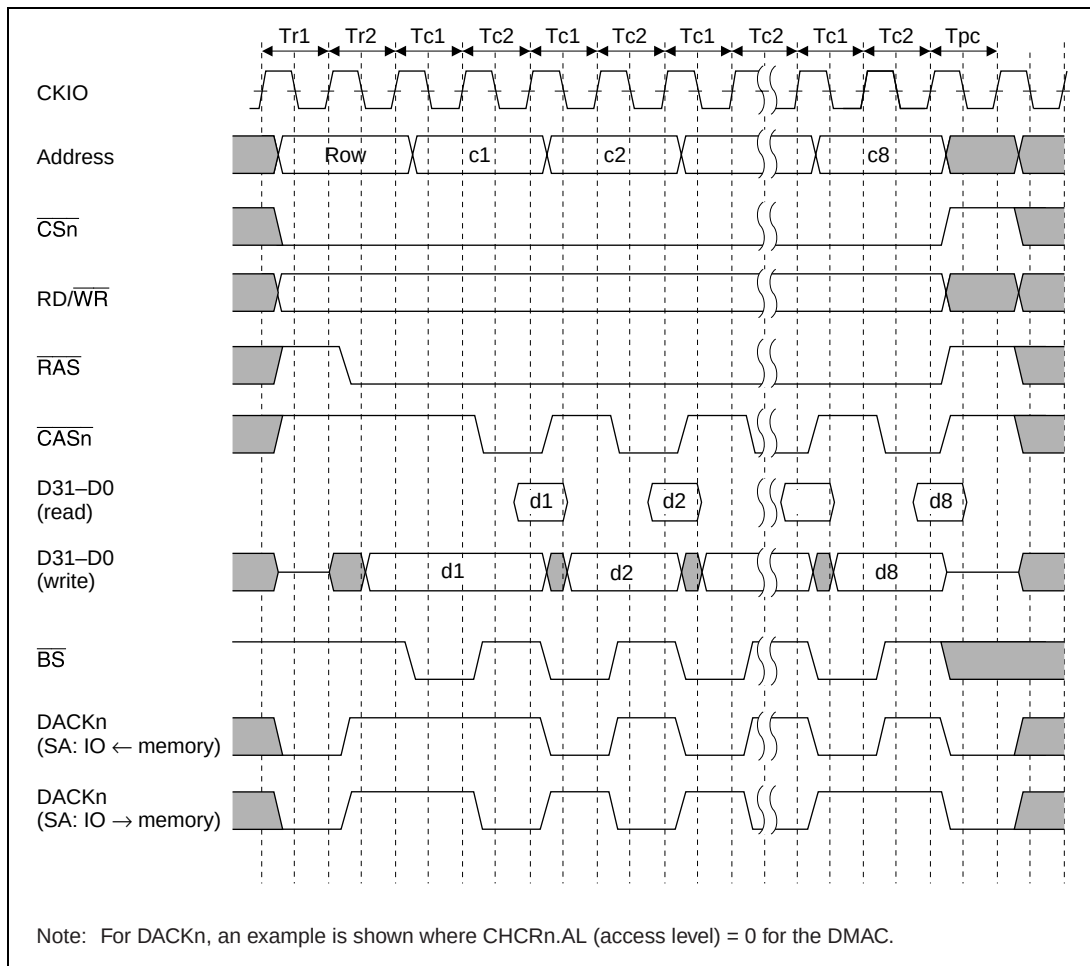

**Figure 13.16 DRAM Burst Access Timing**
**Burst Access:** In addition to the normal DRAM access mode in which a row address is output in each data access, a fast page mode is also provided for the case where consecutive accesses are made to the same row. This mode allows fast access to data by outputting the row address only once, then changing only the column address for each subsequent access. Normal access or burst access using fast page mode can be selected by means of the burst enable (BE) bit in MCR. The timing for burst access using fast page mode is shown in figure 13.16.